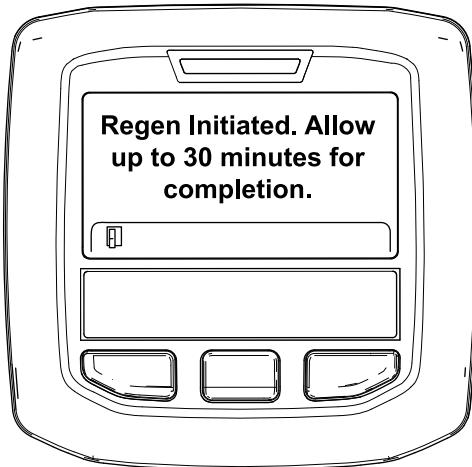

Figure 51
- If the regeneration is allowed, the “Regen Initiated. Allow up to 30 minutes for completion” message displays in the InfoCenter, wait for the machine to complete the parked regeneration process (Figure 51).